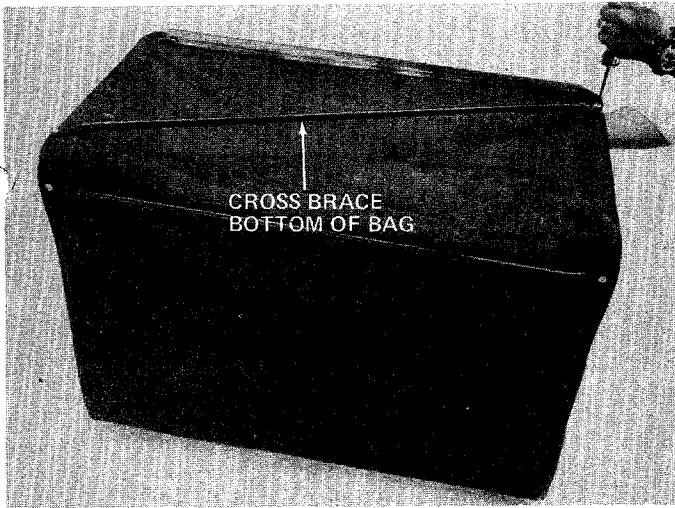

FIGURE 7
6. Place the grass bag upside down and assemble the cross brace as shown in figure 7. Secure in place with two truss machine screws (C), external lock (star) washers (D) and hex nuts (E).